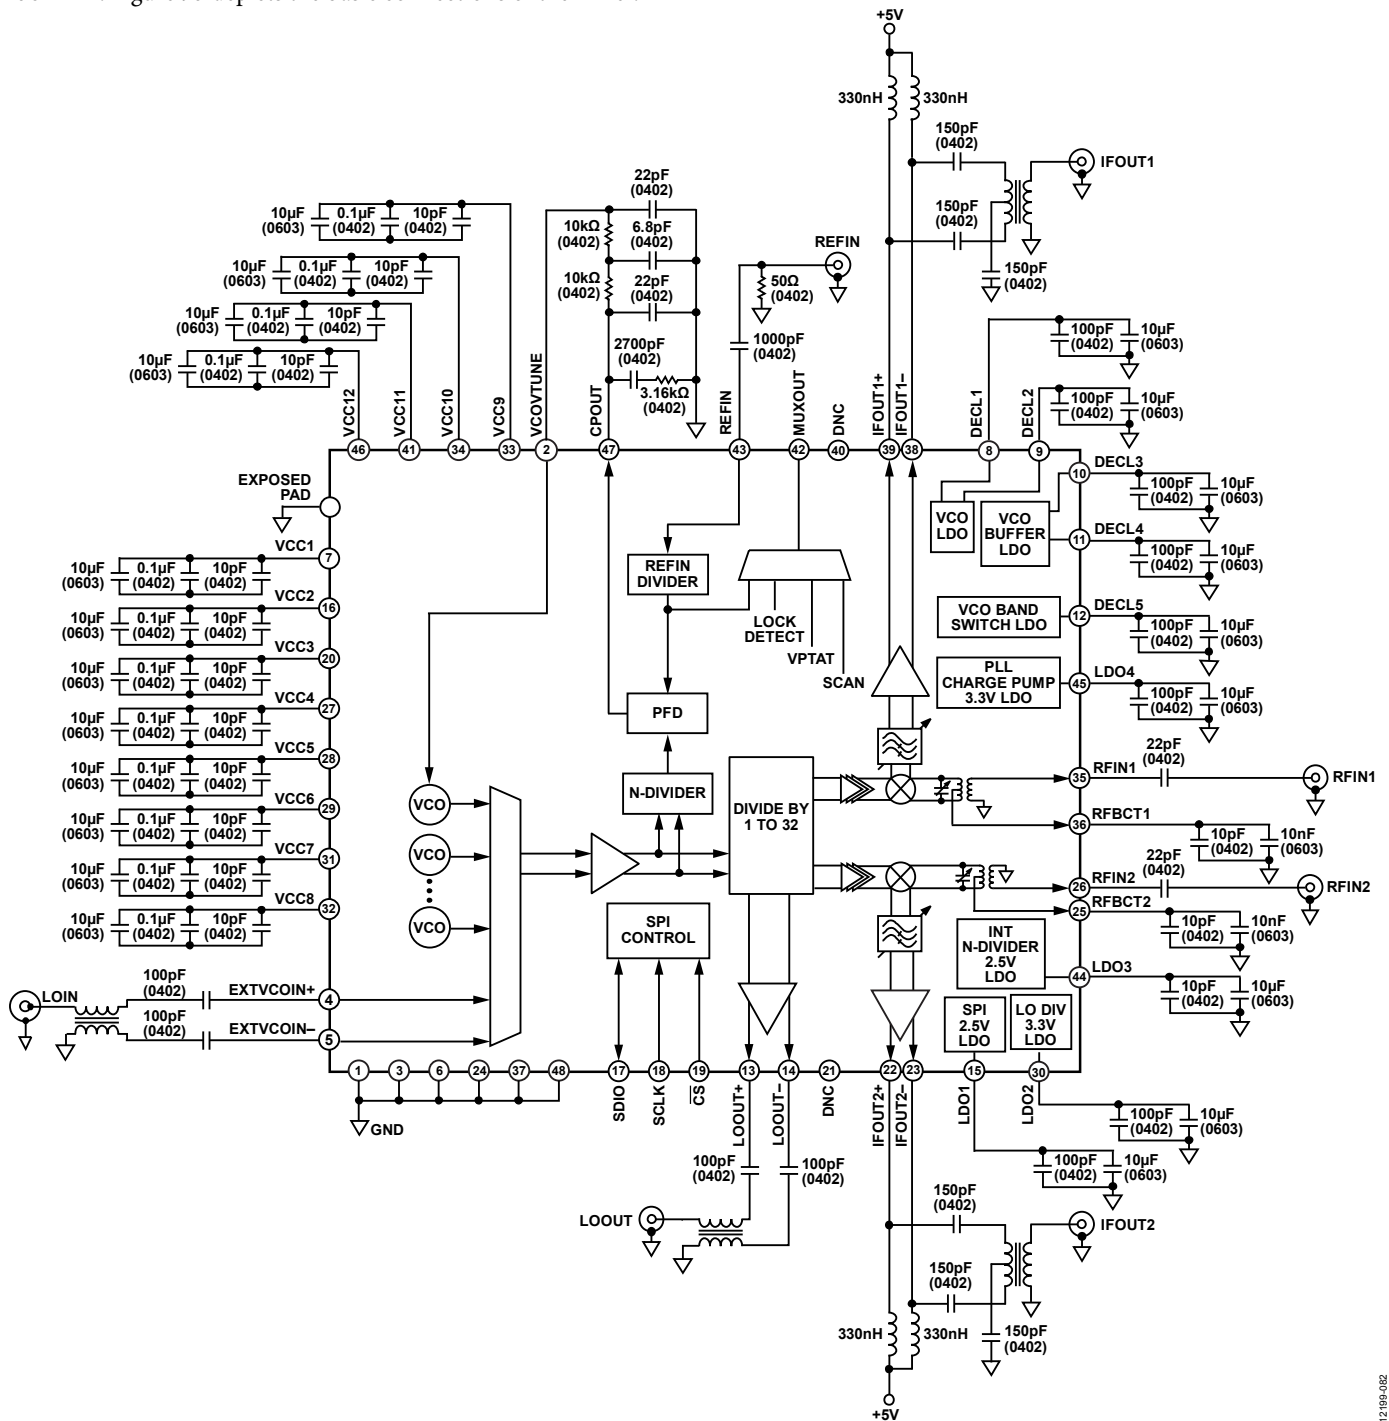

Figure 95. Basic Connections Diagram
The ADRF6612 mixer is designed to downconvert radio frequencies (RF) primarily between 700 MHz and 2800 MHz to lower intermediate frequencies (IF) between 30 MHz and 450 MHz. Figure 95 depicts the basic connections of the mixer.